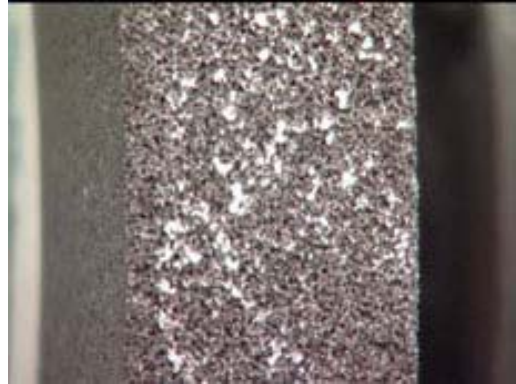

Fig.5 Loaded Wheel
- 2) wheel bond too strong (Figure 5). When self-sharpening the wheel, the pressure of grinding will either fracture the grain or pull it out of the bond when it becomes dull. This action exposes new, sharp-cutting edges.